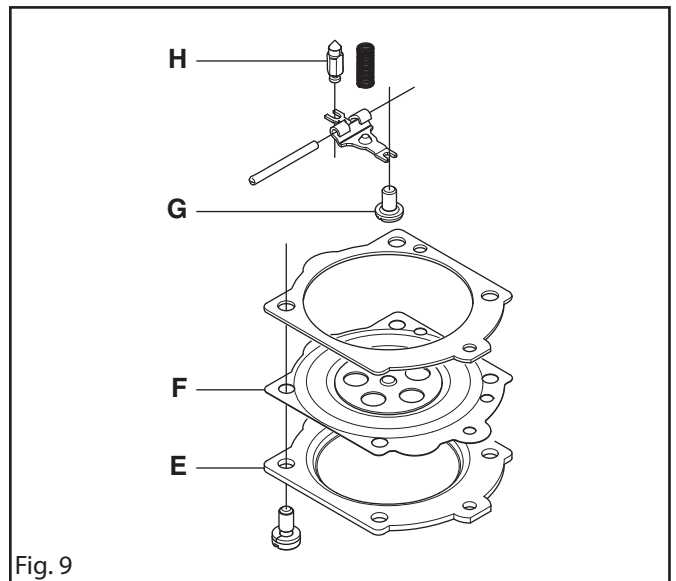

Fig. 9
carefully remove the metering diaphragm (F) and gasket. See fig. 9.
8. Undo the screw (G) and take out the needle valve (H) together with the lever arm, spindle and spring. See fig. 9.